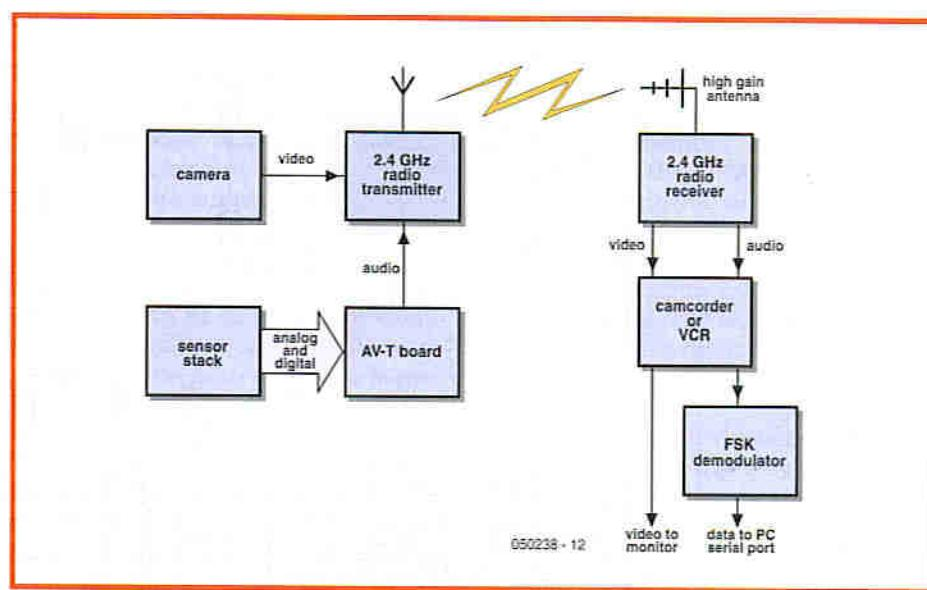

Figure 1. Block diagram of the air borne (hopefully skyborne!) telemetry system.
**Figure 1** shows the block diagram of the telemetry system. The part that